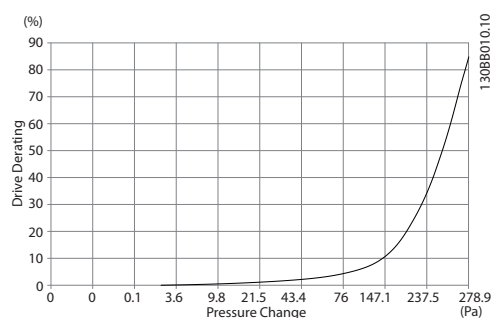
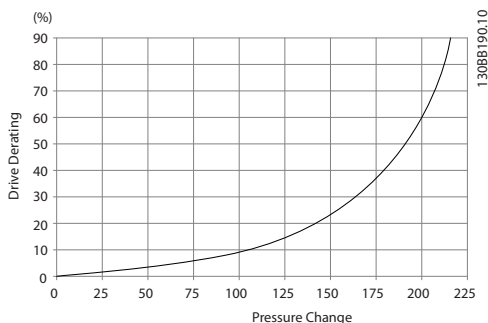

Figure 3.31 E Enclosure Derating vs. Pressure Change (Small Fan), P315T4 and P450T7-P500T7
Figure 3.33 F1, F2, F3, F4 Enclosures Derating vs. Pressure Change
1. If external duct work is added to the exhaust path of the adjustable frequency drive, extra back pressure reduces the cooling of the adjustable frequency drive. Derate the adjustable frequency drive to accommodate the reduced cooling. First, calculate the pressure drop, then refer to *Figure 3.31* to *Figure 3.33*.
1. If external duct work is added to the exhaust path of the adjustable frequency drive, extra back pressure reduces the cooling of the adjustable frequency drive. Derate the adjustable frequency drive to accommodate the reduced cooling. Calculate the pressure drop, then refer to *Figure 3.31* to *Figure 3.33*.